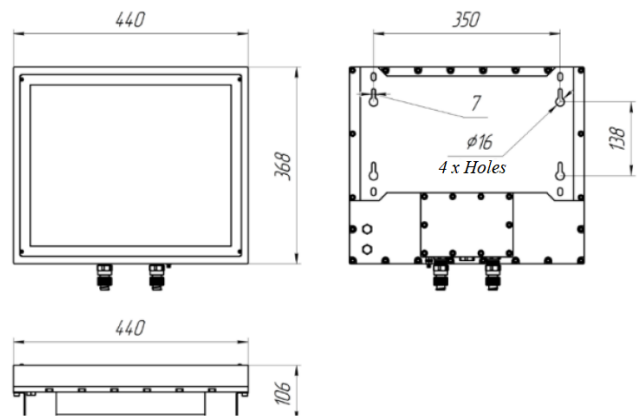

Figure 1. Overall dimensions of the MV-150
- Basic dimensions at the processing facilities correspond to the dimensions of the MV-150 (see Fig. 1);